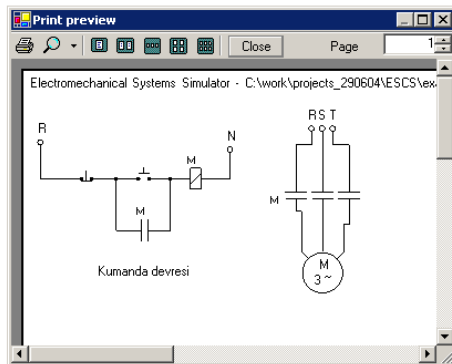

Figure 13 Print preview window
1. Open Print window by clicking File-> Print Setup menu as shown on Figure 13.